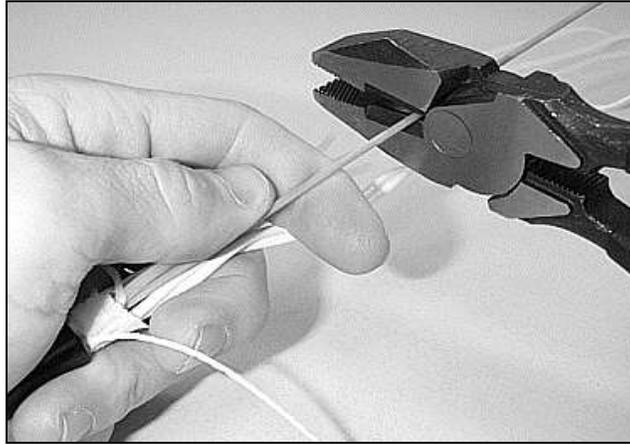

Figure 28 - Cut the central member to the required length.
6.19 Consult the splice closure instructions to determine the length of strength member that is required for strain relief and/or grounding (metallic strength member only). Separate the strength member from the buffer tubes and cut it to the proper length at both ends of the sheath opening (Figure 28).